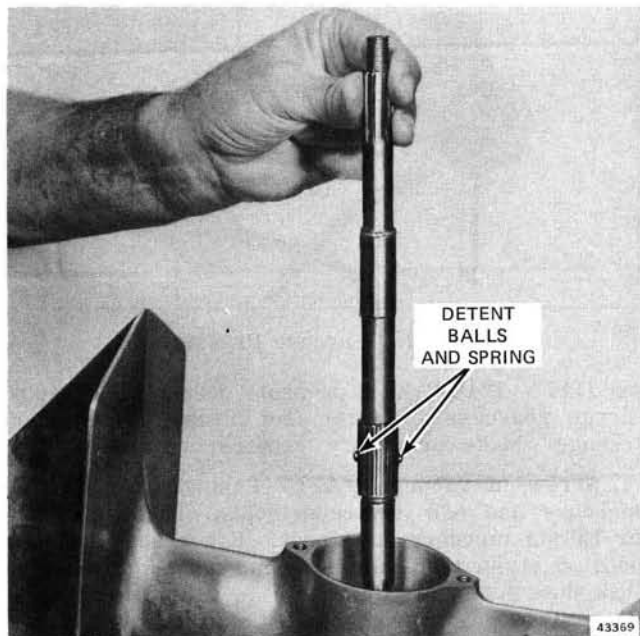

Figure 6-51. Installing Propeller Shaft, Spring and Detent Balls
9. Coat detent spring and balls with OMC Needle Bearing Grease to hold in place, and insert in propeller shaft. Align detent balls with ramps in clutch dog. Insert propeller shaft through clutch dog, forward gear, and into forward bearing. See Figure 6-51. Install reverse gear. See Figure 6-52. Lubricate bearing housing and "O" ring with oil and install bearing housing. See Figure 6-53. Dip screws in OMC Gasket Sealing Compound and tighten to torque specifications, Section 2.